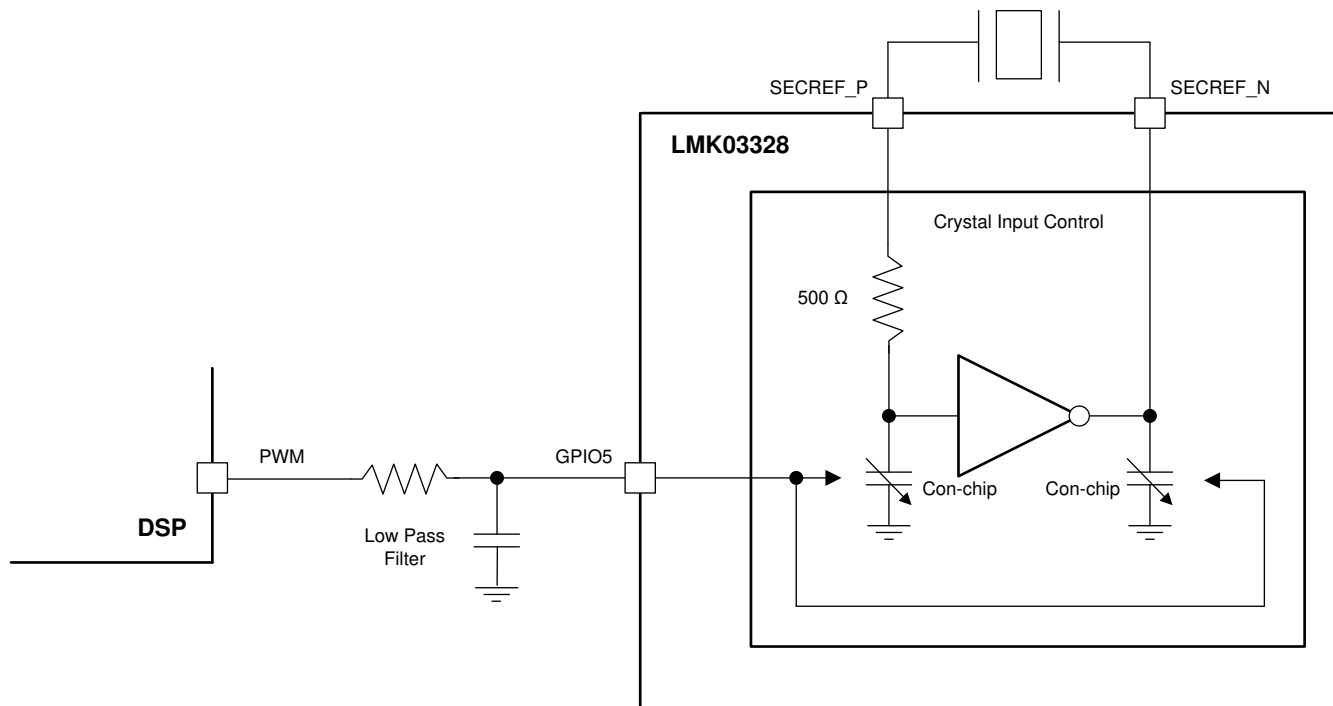

图 8-17. Crystal Load Capacitance Compensation Using PWM Signal
- The second method is using a low-pass filtered PWM signal to drive the 8-level GPIO5 pin as shown in Figure 8-17. The PWM signal can be generated from the frequency difference between a highly stable TCXO and the output of LMK03328 that is provided as a feedback into the GPIO5 pin and used to adjust the on-chip load capacitance on the crystal input to reduce frequency errors from the crystal. This is a quick alternative that produces a frequency error at the output of the LMK03328 and can be acceptable to any application when compared to a full-characterization with a chosen crystal to understand the exact load pulling required to minimize frequency error at the output of the LMK03328. More details on frequency margining are provided in Application and Implementation.